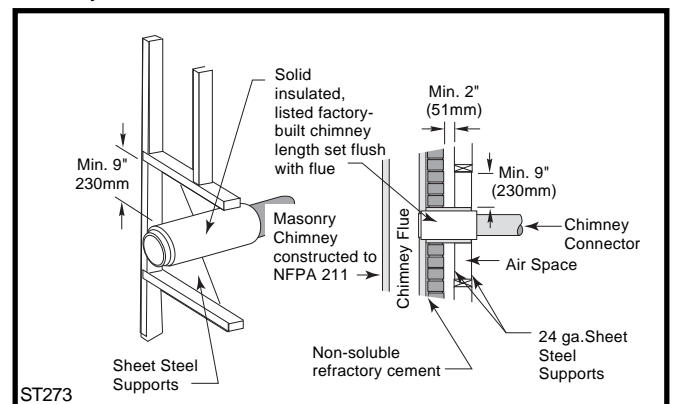

Fig. 8 Wall Pass-through using factory-built insulated chimney section.
- Using a section of double-wall chimney with a 9" (230 mm) clearance to combustibles. (Fig. 8)